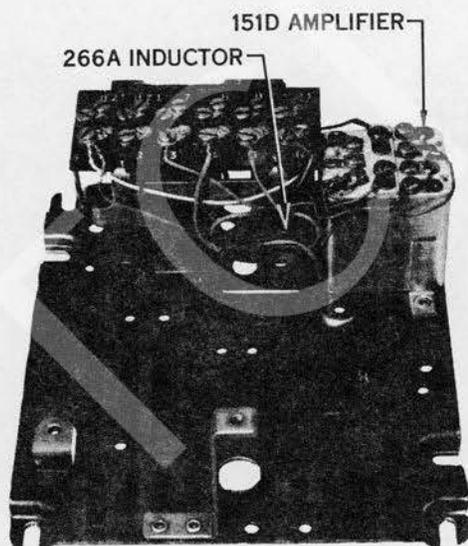

Fig. 10 - 687D Subscriber Set, Internal View
- (c) 687D: Provides transmitter amplification for head telephone sets when used with a 685C subscriber set in 2- and 4-wire services (Fig. 10).